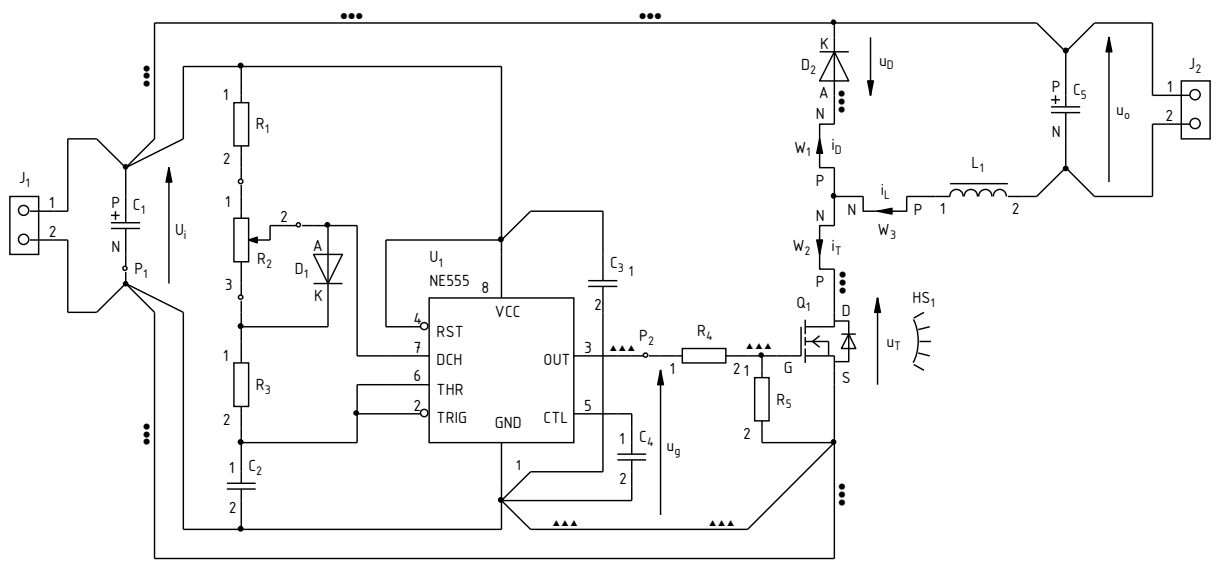

Fig. 1. Schematic diagram of the buck converter circuit under investigation
The schematic diagram of the non-isolated buck (step-down) converter has been presented in Fig. 1. Screw terminal blocks enable the connection of a **power supply** (terminal block J₁, input voltage U_i) and of a **load** R_L (terminal block J₂, output voltage u_o). It should be noted that the voltages U_i and u_o also appear across the capacitors C₁ and C₅, respectively, that are polar components, which requires the correct polarity of the input voltage to be assured. To supply the circuit, any power supply with a current capability of at least 3 A, smoothly adjustable voltage and adjustable current limit can be used.
6. Attach the voltage probe or probes with a 1:10 attenuation, connected to the input or inputs of the oscilloscope, so as to measure the generator's output voltage u_g (measurement points P_1 and P_2), considering its direction according to Fig. 1:
9. Clamp the probe on the wire conducting the current of the inductor (presently shorted) i_L (wire W_3) so that the positive current direction as indicated by an arrow on the probe body is in accordance with the arrow in Fig. 1. A waveform of the current i_L should be displayed on the oscilloscope. Make sure that the sign of the current as measured is positive, which indicates that the probe has been oriented correctly.